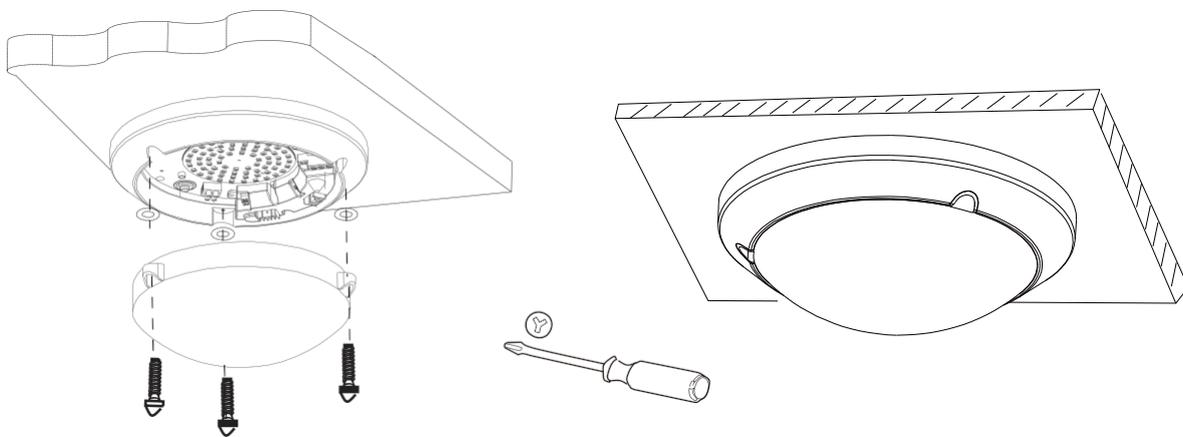

Fig.7
- Step7 Fix the PC lampshade on the base with the screws (as Fig.7)